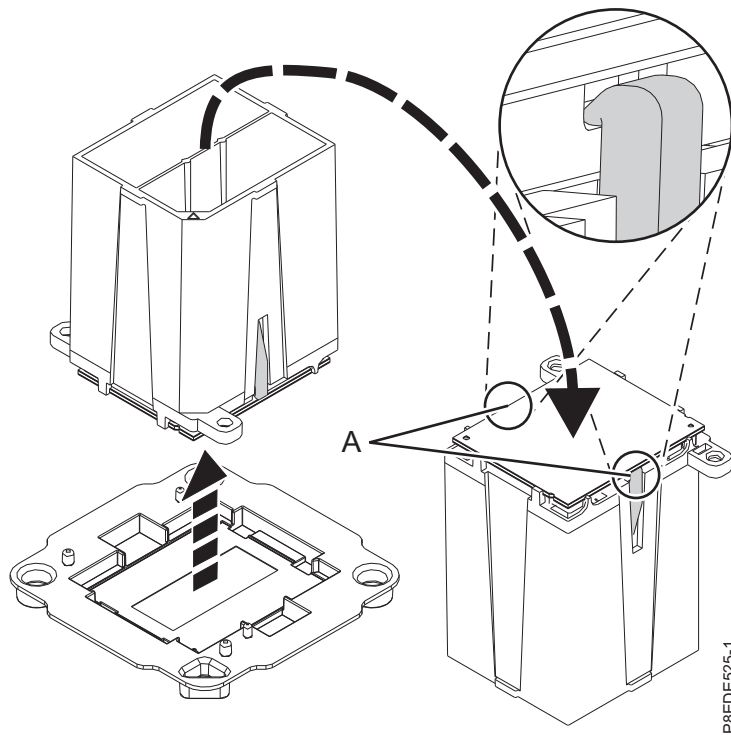

Figure 35. Preparing for system processor module installation
- b. Ensure that both jaws (**A**) are firmly grabbing the system processor module, as shown in Figure 35.